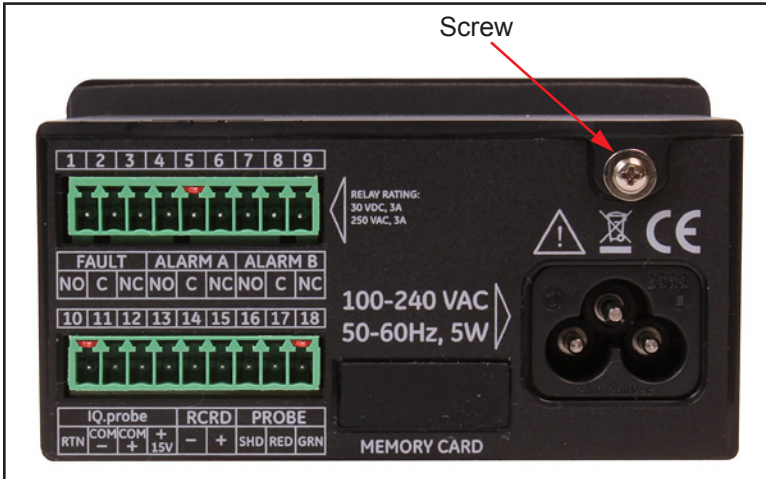

Figure 4: Back Panel (AC cord version shown)
2. Remove the screw at the top of the back panel (see *Figure 4* below).